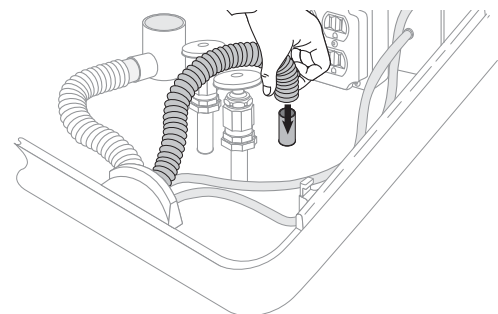

FIGURE 2
4. Identify the convolute vacuum tubing, cut it to a length that avoids bends and low spots. Push it onto the vacuum stub (see Figure 2).